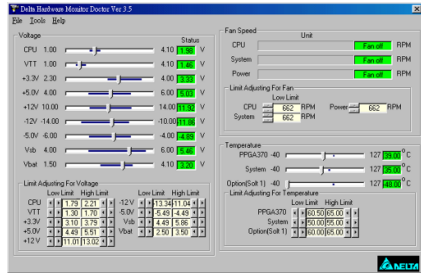

Figure 7
- Click “DELTA HD35” icon, the following screen will appear Figure 7.